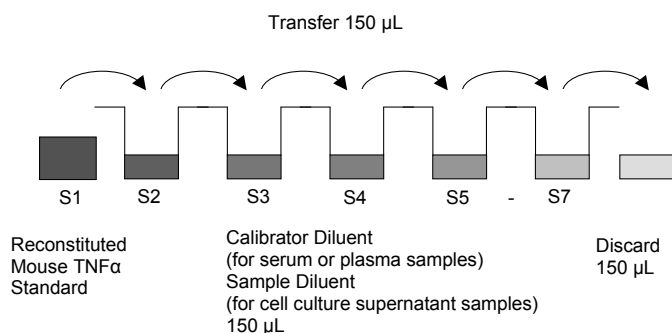

Fig. 8 External standard dilution
- Repeat serial dilutions 4 more times thus creating the points of the standard curve (see Figure 8).